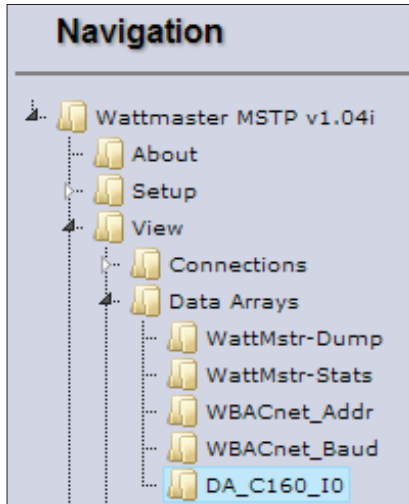

Figure 10: Navigation Window - View Data Arrays
1.) In the *Navigation Window* on the left of the *FS-GUI Main Screen*, click **<View>** and then click **<Data Arrays>**. See **Figure 10**.